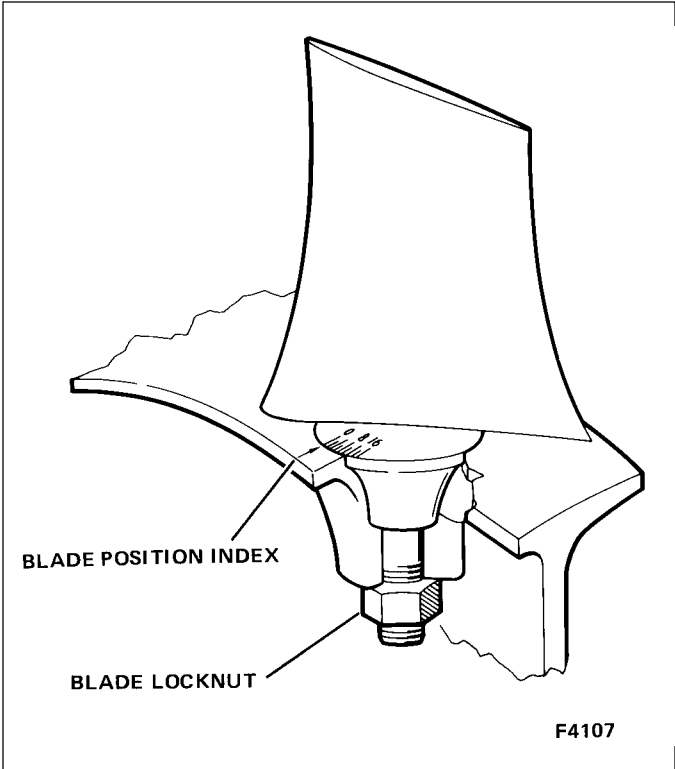

Figure 2-6. Checking Blade Setting/Adjustment
5. Loosen the blade locknut for blade to be adjusted to be adjusted (refer to Figure 2-6).